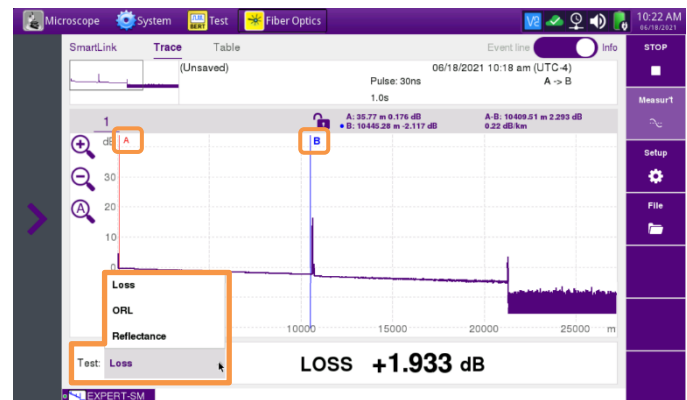

Figure 10: Trace View, Loss Result
8. **Figure 10** shows **Loss** measurement, **Figure 11** shows **ORL** measurement, and **Figure 12** shows **Reflectance** measurement.